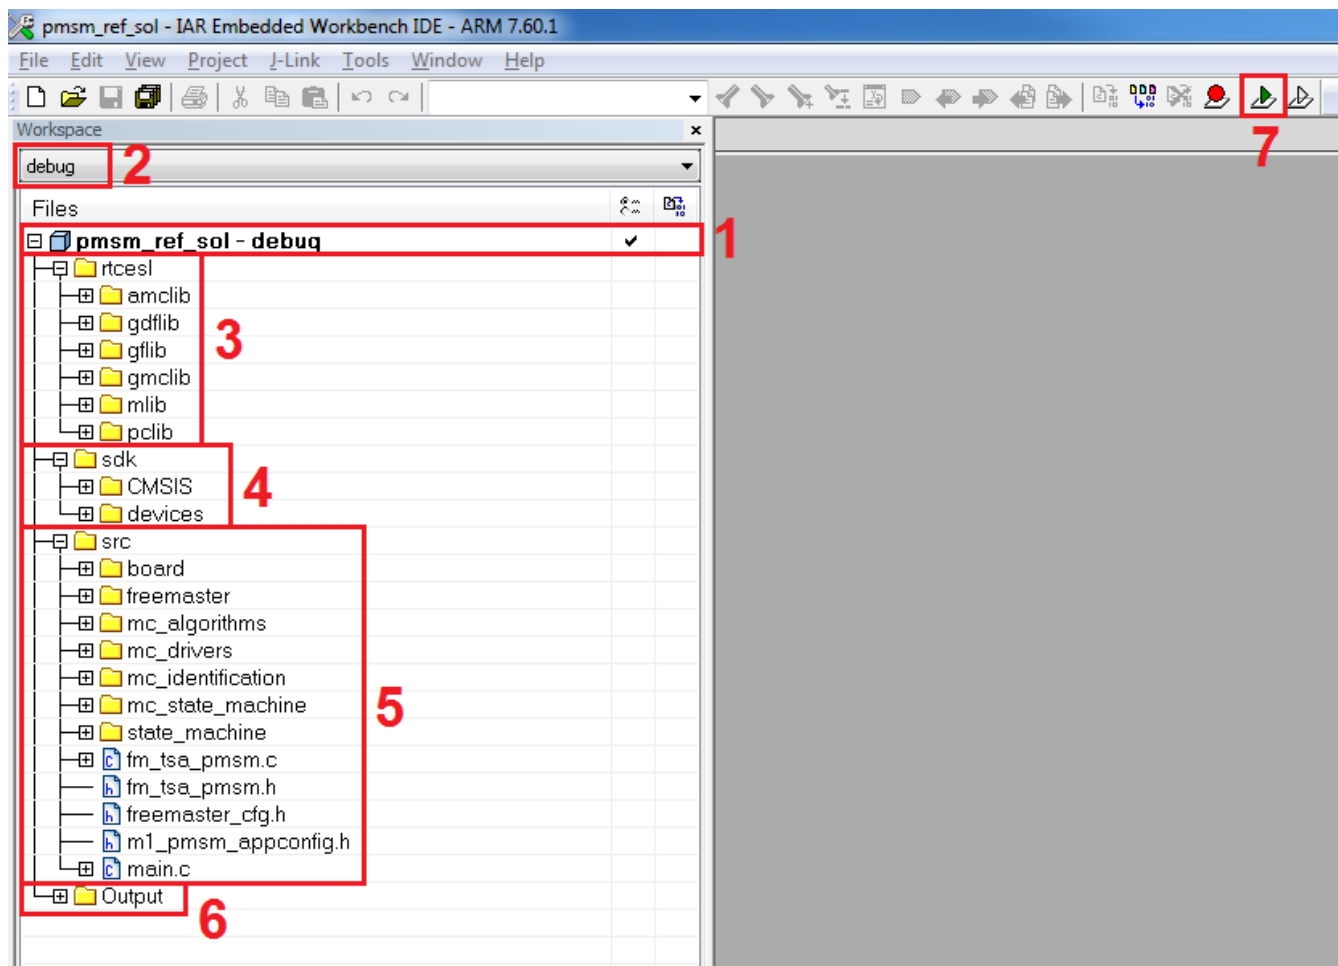

Figure 23. IAR Embedded Workbench
Use IAR Embedded Workbench IDE to compile and run the demonstration or solution projects. The first step is to choose the demonstration or solution project, development board, and MCU. For example, to run a demonstration project for the Freedom development platform and Kinetic KV10 MCU, the project is located in the *pmsm_package/build_demos/frdm-kv10z/iar* folder, which contains all necessary files. Double-click “*projects_demos_frdm-kv10z.eww*” to open this project. The point 1 in Figure 23 shows the IAR workspace with “*projects_demos_frdm-kv10z*” opened.
The project opened in IAR Embedded Workbench is fully configured and includes all necessary source and header files required by the application, such as startup code, clock configuration, and peripherals configuration. You can choose between two compiling conditions (“debug” or “release”), shown in Figure 23, point 2. Each of the two conditions has its own setting:
The source code shown in Figure 23 includes these source files and folders:
- Point 6—shows the output file generated by the compiler, and ready to use with the default debugger (P&E Micro – OpenSDA). This debugger is set as default for Tower boards, and can be changed in project options by right-clicking Point 1, selecting “Options”, and clicking “Debugger”. Start the project debugging by clicking Point 7 (Figure 23).